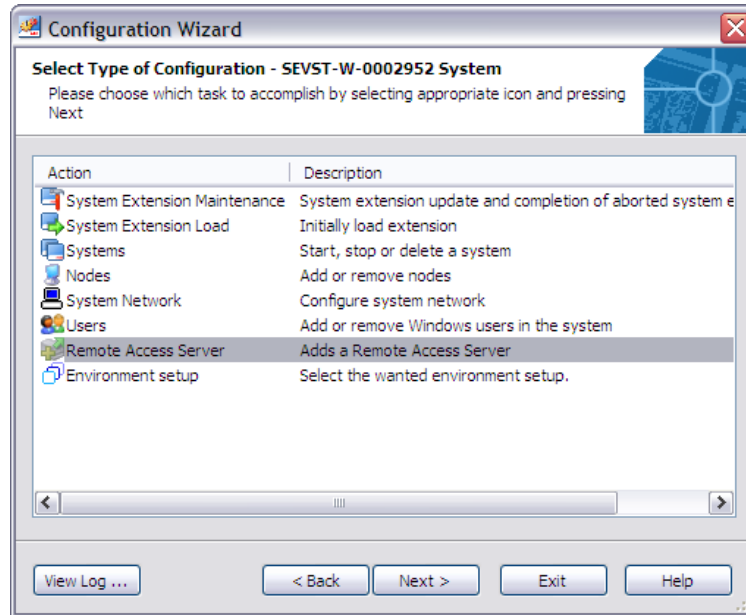

Figure 7. Create Remote Access Server
2. Select **Remote Access Server** option, click **Next**, see Figure 7.